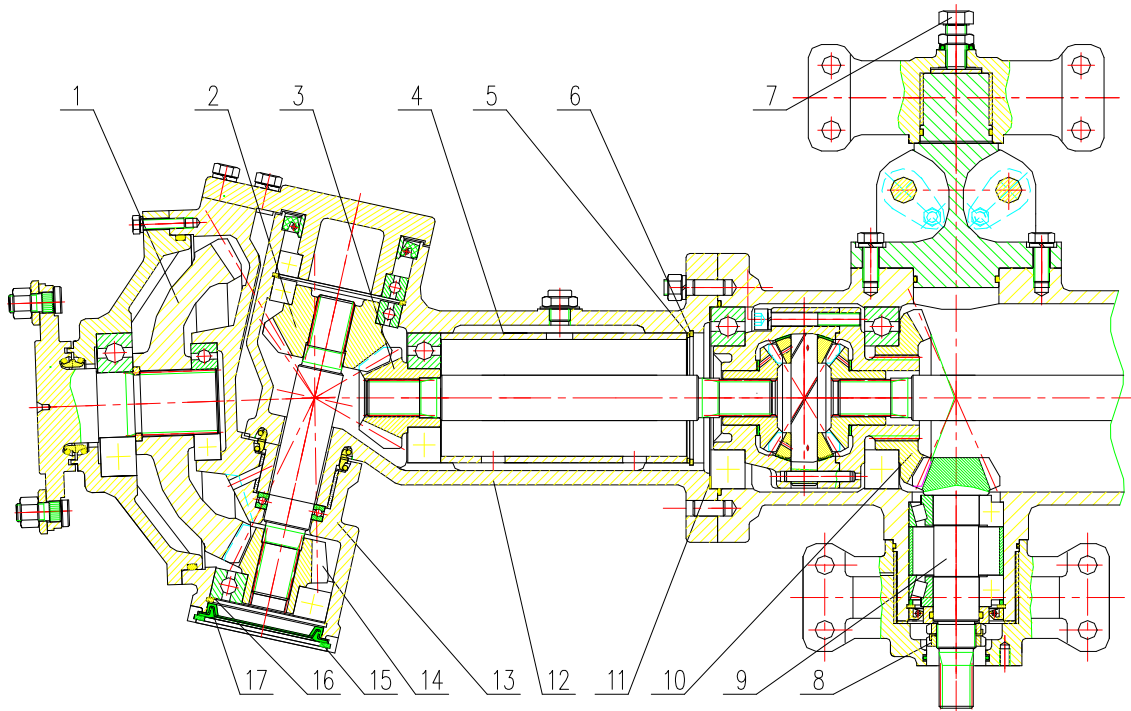

Figure 5-17 Structure of Front Drive Axle Assembly and Its Adjustment
5.3.10.2 Structure of front drive axle and its adjustment (Figure 5-17)